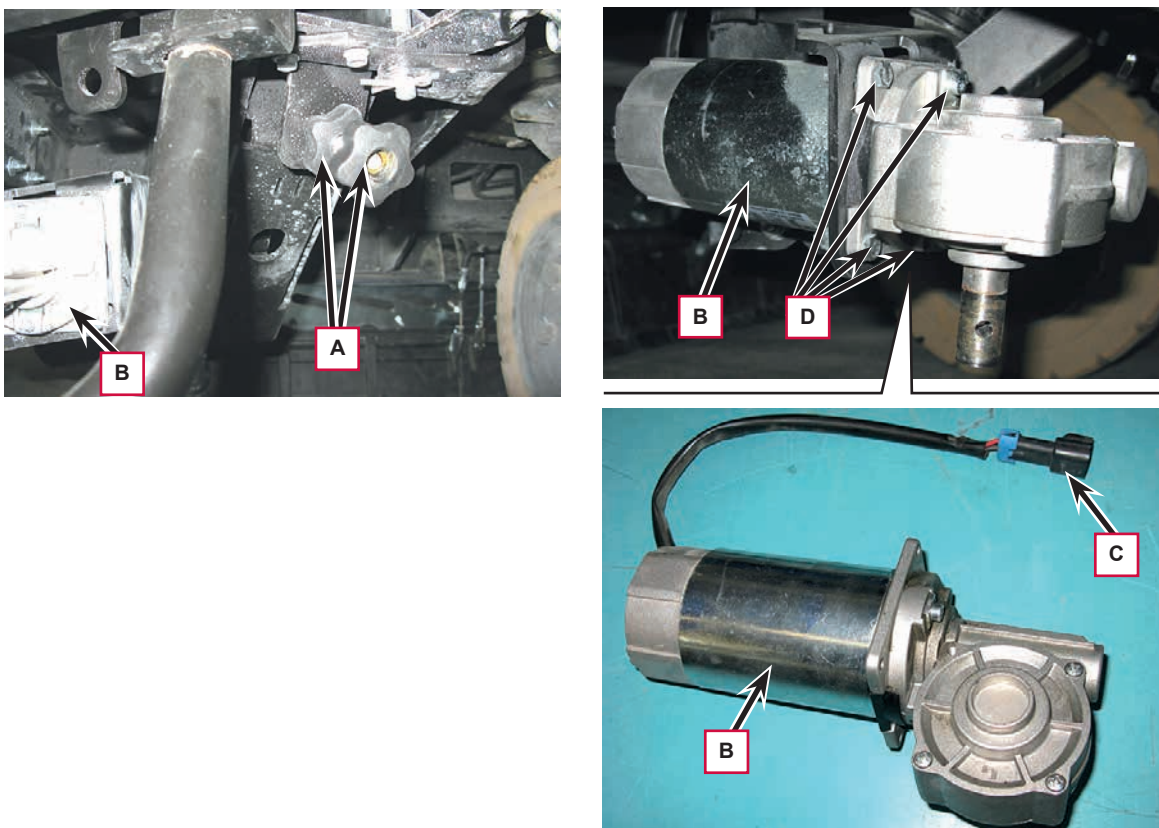

Figure 8
3. Use the adjustment knobs (A, Figure 8) to lower the side broom (B) motor all the way.
7. Disconnect the electrical connection (C) of the side broom motor (B), located above the motor itself (if necessary, cut any clamps in the way).
8. Remove the four fastening screws (D) of the motor (B).
9. Remove the motor (B) from its seat.